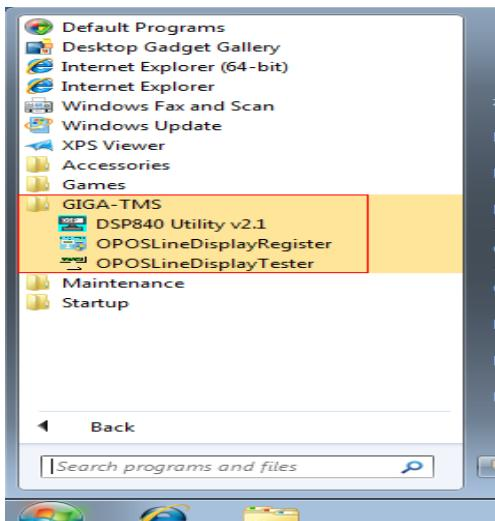

Figure 2-13. Complete installation of all
- Complete installation of all software, see figure 2-13 and 2-14.